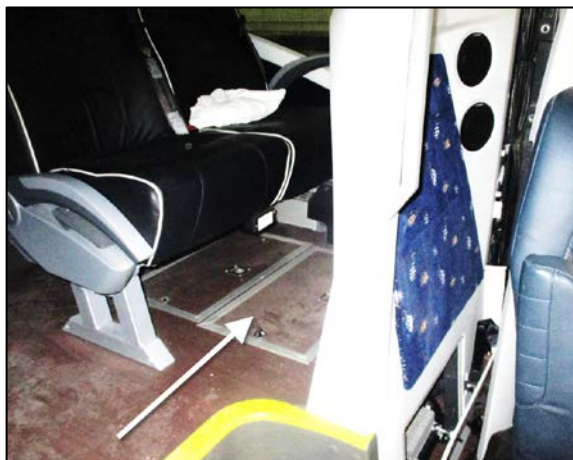

FIGURE 11
19. Locate the access panel of the audio/video electrical compartment (Figure 11).